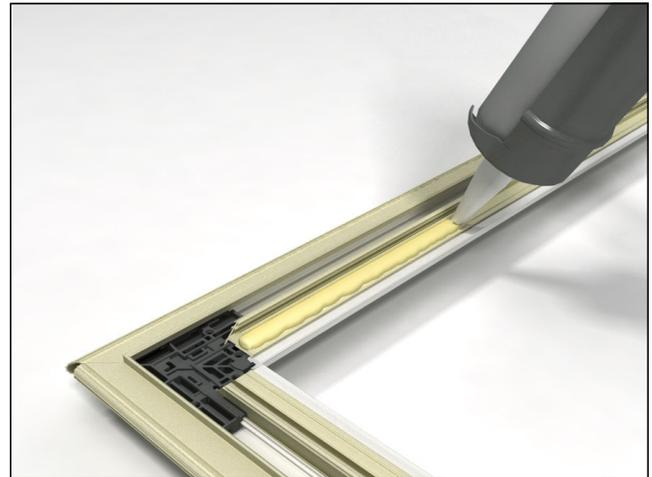

Figure 3
1. Lay the sash aluminum section face down on a clean flat surface. Place a uniform 3/16" (5) bead of sealant around the perimeter of the vinyl portion of the glazing rabbet. See figure 3.